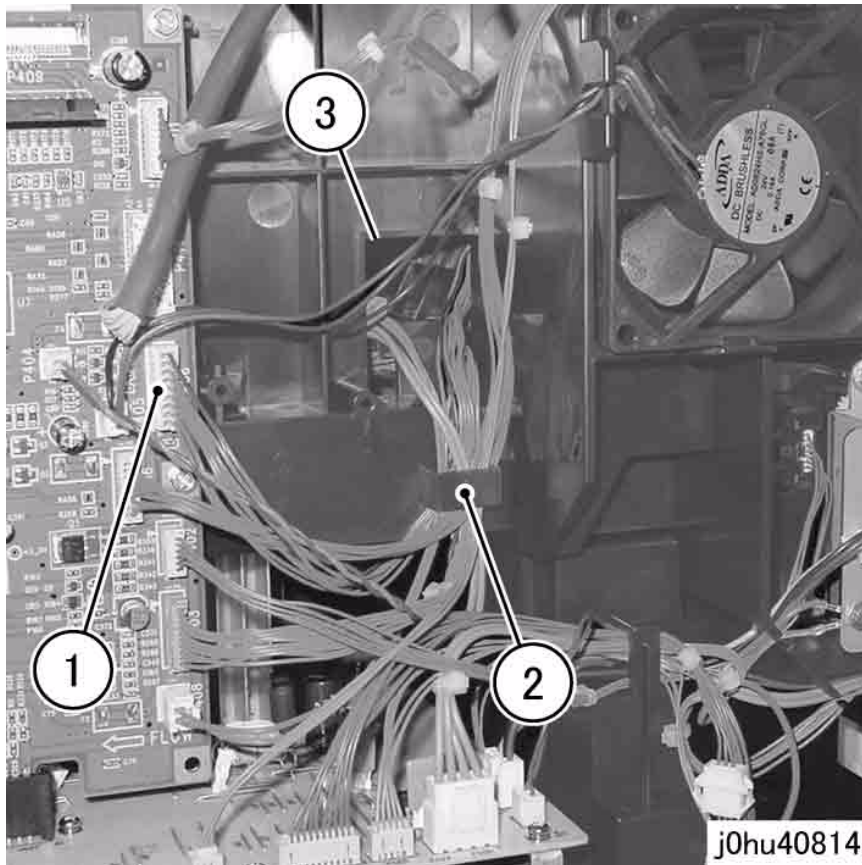

Figure 1 Disconnect SLCC PWB Connector
2. Disconnect the SLCC PWB connector (Figure 1).